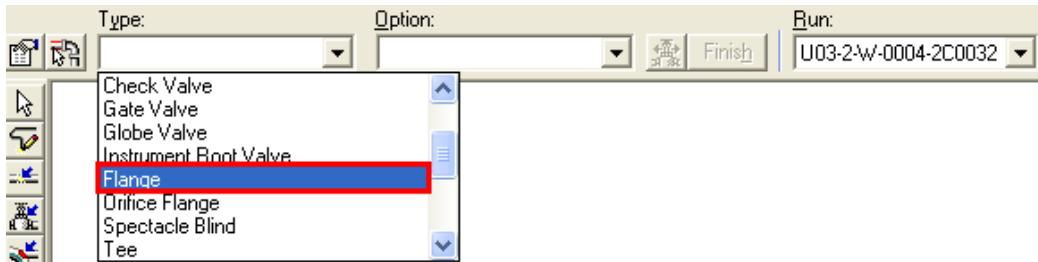

Figure 11: Flange Option on the Insert Component Ribbon
11. Select **Flange** option from the **Type** drop-down list on the **Insert Component** ribbon to place a flange on top of the gate valve as shown in Figure 11.